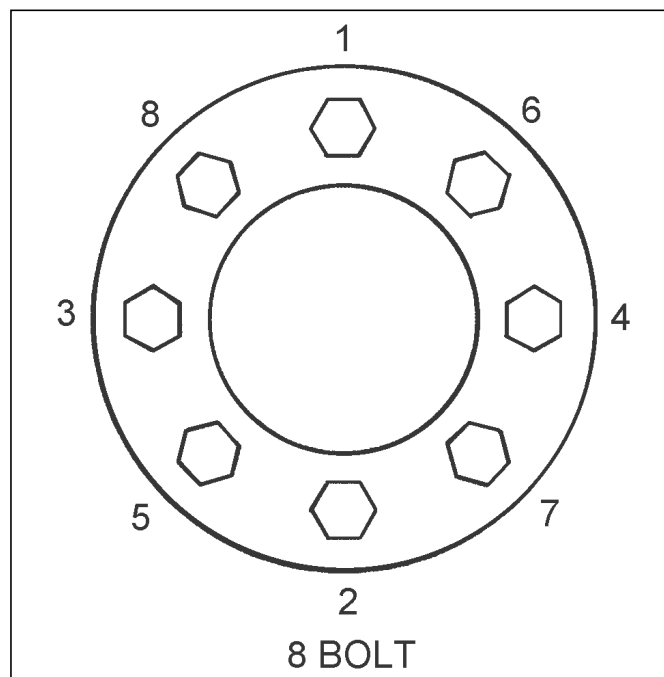

Figure 3-1: Stud Tightening Sequence
9. Install the flange nut and tighten to 50 foot-pounds using the sequence in. Then tighten to full torque of 450-500 ft./lbs (See Figures 3-1.).